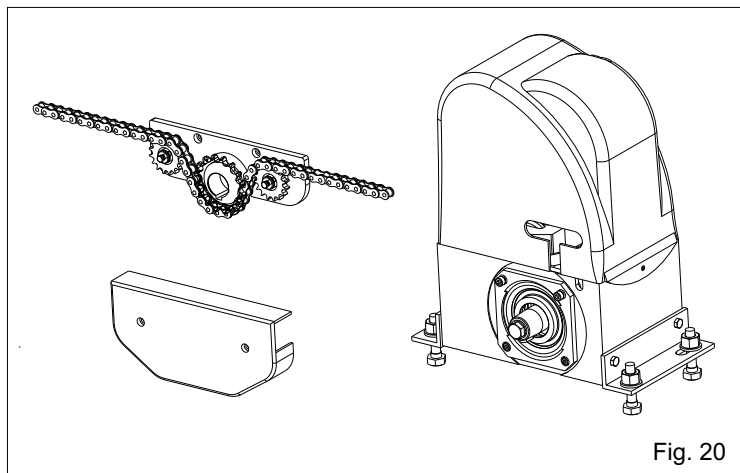

Fig. 20
The assembling of the main parts which include the whole chain automation is illustrated in Fig. 20.
**10.2.** Install the chain making it pass through the pinion group as in Fig.20.